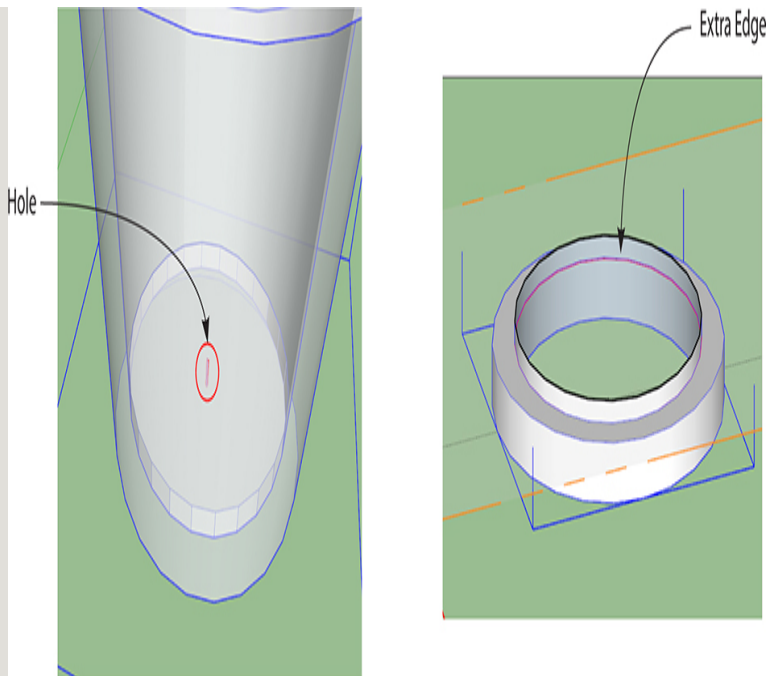

Figure 5-4 The travel mug modeled in Chapter 3. On the left is a pinhole; on the right is an extra edge.
- **Have no holes, extra faces, or extra edges in its mesh** (Figure 5-4).